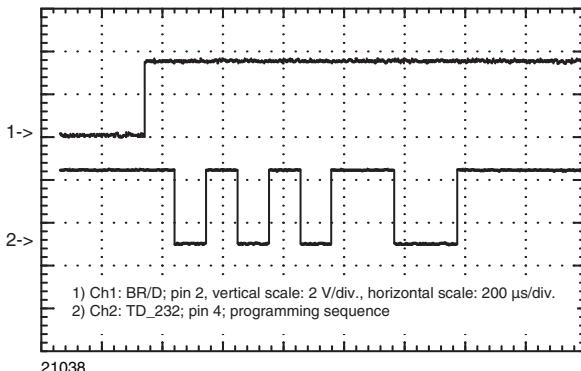

Fig. 5 -
The diagram in figure 5 shows the programming byte **"0-1010-1100"** in the order
**STA, B0, B1, B2, B3, S0, S1, S2, X. This order is from right to left in table 1. B0 is sent first as LSB (see figure 5).**
In figure 5 the programming sequence is shown for a bit rate of 12.8 kbit/s.
Programming sequence for setting the endec to a bit rate of 12.8 kbit/s as in figure 5 but with a 3/16 bit pulse duration (S0 = "0").